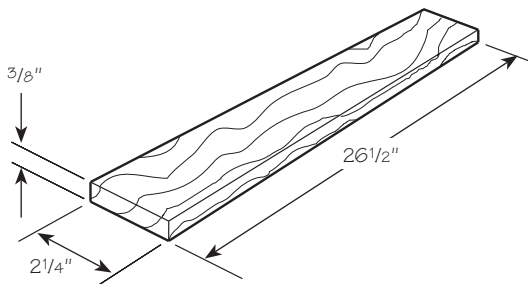

Figure 2
- 3. Make extension piece(s)** – If you are fitting the aluminum cover to a Veritas workbench (that does not have side skirts), mill one (or two) pieces of maple (or other similar hardwood) to the size shown in **Figure 2**. If you are fitting the cover to a vise with jaws **not** made by Veritas, measure the jaws and mill the piece(s) $\frac{3}{8}$ " thick and $\frac{1}{4}$ " larger in each horizontal dimension.